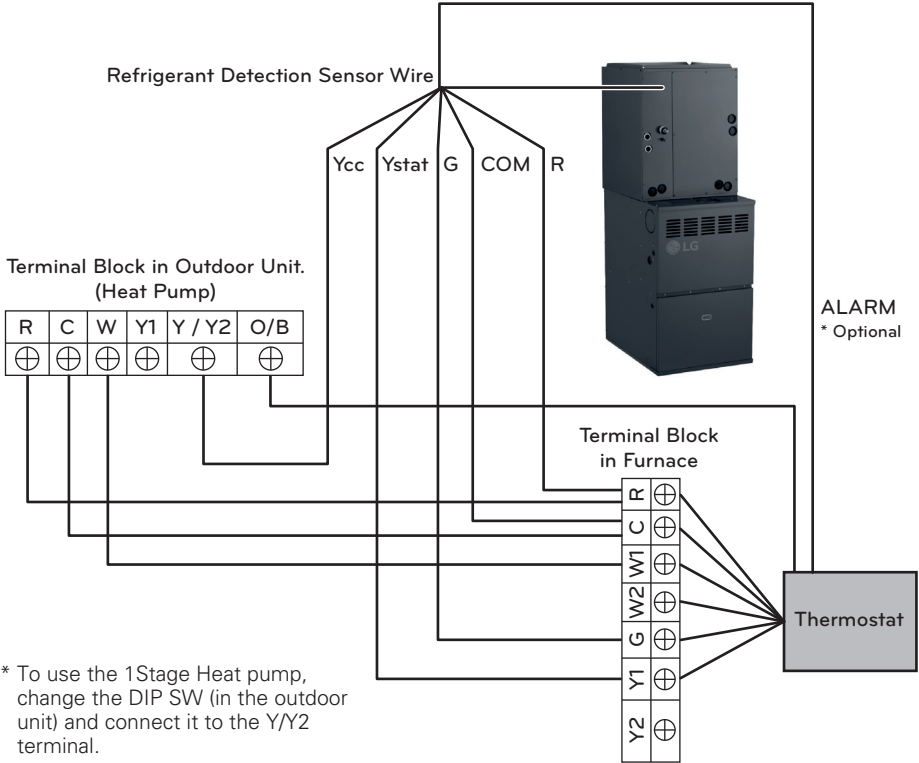

Fig 9-3 Wiring Diagram with Dual Fuel 1-Stage Cooling, 3-Stage Heating Thermostat.
- Connect line voltage leads as shown in Fig.9-3. Reinstall cover to J-Box. Do not pinch wires between cover and bracket.
- Complete electrical box wiring and installation. Connect line voltage leads as shown in Fig.9-3. Use best practices (NEC in U.S. and CSA C22.1 in Canada) for wire bushings, strain relief, etc. Reinstall cover to J-Box. Do not pinch wires between cover and bracket.
- Connect line voltage leads as shown in Fig. 9-3. Reinstall cover to J-Box. Do not pinch wires between cover and bracket.